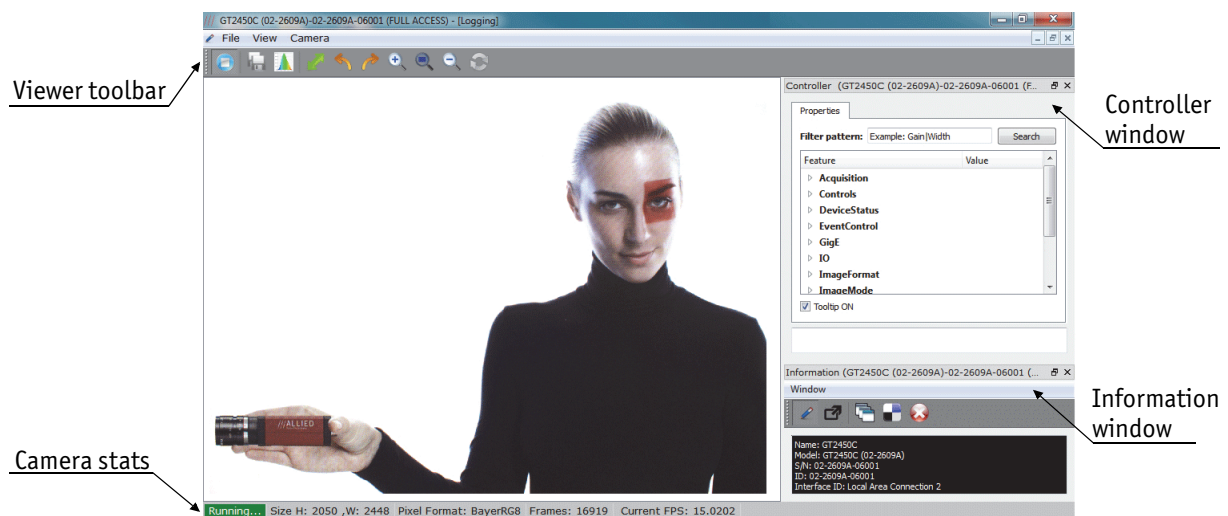

Figure 10: Camera window in VIMBA Viewer
3. A new camera window appears, as shown in figure 10. This camera window consists of the following components:
Press freerun button in the viewer toolbar, shown left. This starts continuous acquisition from the camera using default camera settings. It can be confirmed by stats at the bottom of camera window, as shown in figure 10. “Running” means continuous acquisition, whereas, “Ready” means camera is ready to acquire images. The freerun button is used to start/stop the live view.
The controller window, as shown in figure 10, is used to configure the camera frame rate, exposure time, color balance, imaging mode, strobe functionality, pixel format, and much more.